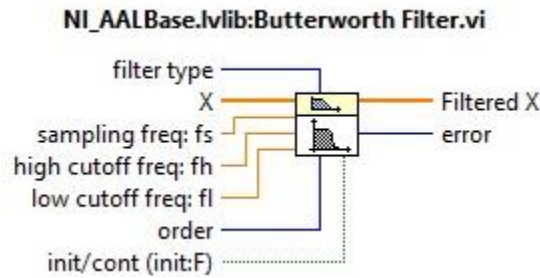

Figure 19: Butterworth Filter Icon
4. Use a **Butterworth** filter (Functions > Signal Processing > Filters > Butterworth Filter) as the LPF. Right click on the filter icon and enable **All Constants** from the **Create** menu and set up the filter as a second-order Low Pass filter with a low cutoff frequency of 5 kHz. As was the case for the BPF, the sampling frequency input should be the actual IQ rate obtained from the Configure Signal.vi (Outside of the while loop). The output of the Butterworth LPF should be connected to the **Build Waveform** block provided in the template that feed the **Base Band Output** graph. Figure 19 shows the Butterworth filter.